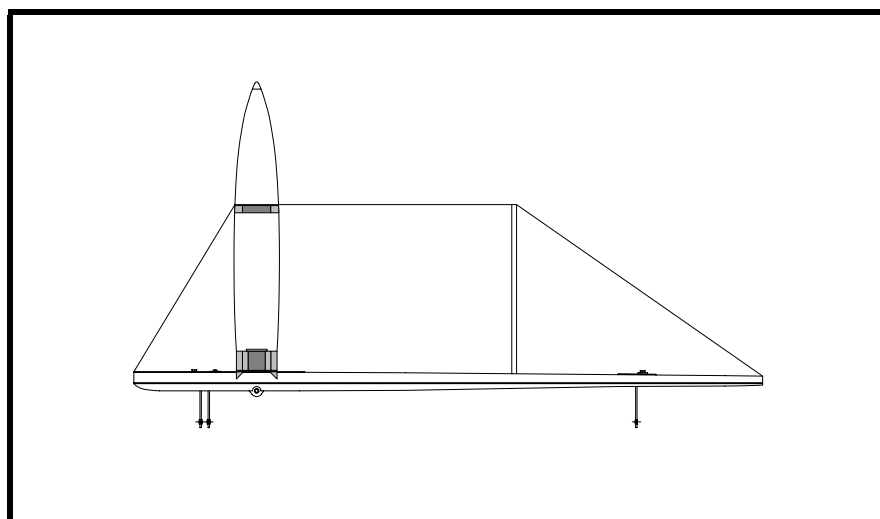

Figure 3
- ❑ Fit the intermediate rib for Sta. 3, P/N 413-4, to the main fin spar. Clamp in place. See Drawing No. 411 and Figure 3.
- ❑ Loop a string over this rib and over the forward stabilizer spar to locate the centerline of the rib at Sta. 2. See Figure 3. You should brace the rib and stabilizer for the tension of this string.